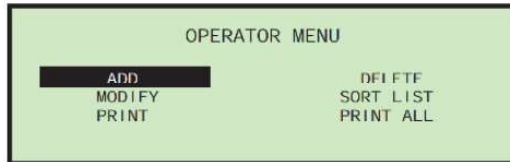

FIGURE 54: Operator Menu screen
- 1 On the **OPERATOR MENU** screen (Figure 54), select **ADD**. The **RENAME OPERATOR** screen will appear.
- 1 On the **OPERATOR MENU** screen (Figure 54), select **DELETE**. The **SELECTOPER TODELETE** screen appears.
- 1 On the **OPERATOR MENU** screen (see Figure 54), select **MODIFY**. The **SELECTOPERATOR** screen will appear.
- 1 On the **OPERATOR MENU** screen (Figure 54), select **SORT LIST**.